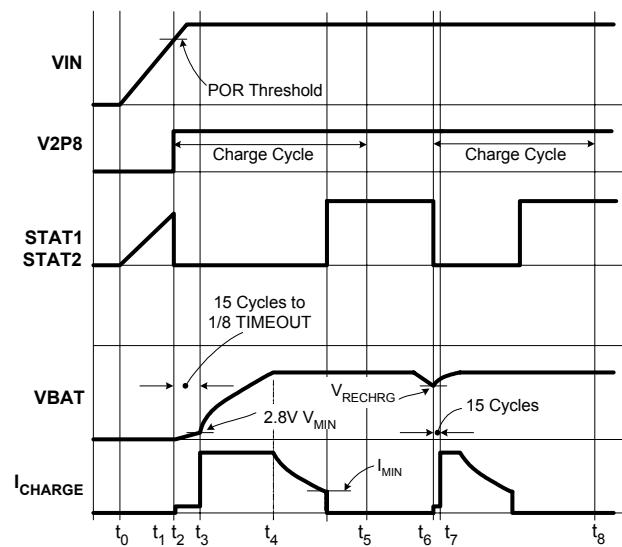

FIGURE 4. OPERATION WAVEFORMS
Figure 4 illustrates the typical signal waveforms for the linear charger from the power-up to a recharge cycle. More detailed Applications Information is given below.
The ISL6292D resets itself as the input voltage rises above the POR rising threshold. The V2P8 pin outputs a 2.8V voltage, the internal oscillator starts to oscillate, the internal timer is reset, and the charger begins to charge the battery. The two indication pins, STAT1 and STAT2, indicate LOW. Figure 4 illustrates the start up of the charger between t_0 to t_2 .
A charge cycle consists of three charge modes: trickle mode, constant current (CC) mode, and constant voltage (CV) mode. The charge cycle always starts with the trickle mode until the battery voltage stays above V_{MIN} (2.8V typical) for 15 consecutive cycles of the internal oscillator. If the battery voltage drops below V_{MIN} during the 15 cycles, the 15-cycle counter is reset and the charger stays in the trickle mode. The charger moves to the CC mode after verifying the battery voltage. As the battery-pack terminal voltage rises to the final charge voltage V_{CH} , the CV mode begins. The terminal voltage is regulated at the constant V_{CH} in the CV mode and the charge current is expected to decline. After the charge current drops below I_{MIN} , the ISL6292D indicates the end-of-charge (EOC) with the STAT1 or STAT2 pin and terminates. Signals in a charge cycle are illustrated in Figure 4 between points t_2 to t_5 .
After a charge cycle completes, charging is prohibited until the battery voltage drops to a recharge threshold, V_{RECHRG} (see Electrical Specifications). Then a new charge cycle starts at point t_6 and ends at point t_8 , as shown in Figure 4. The safety timer is reset at t_6 .
The trickle mode charge has a time limit of $1/8$ TIMEOUT. If the battery voltage does not reach V_{MIN} within this limit, a TIMEOUT fault is issued and the charger latches up. The charger stays in trickle mode for at least 15 cycles of the internal oscillator and, at most, $1/8$ of TIMEOUT, as shown in Figure 4.
The end-of-charge current I_{MIN} sets the level at which the charger indicates the end of the charge with the STAT1 and STAT2 pins, as shown in Figure 4. The charger terminates at this moment. The I_{MIN} is set in two ways, by connecting a resistor between the IMIN pin and ground, or by connecting the IMIN pin to the V2P8 pin. When programming with the resistor, the I_{MIN} is set in the equation below.